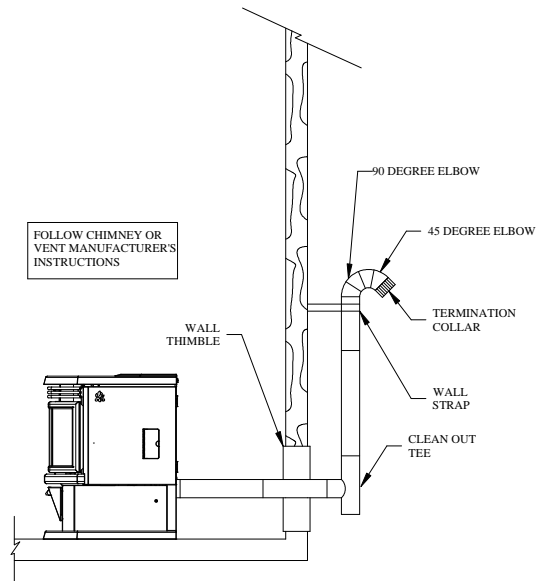

FIGURE 7
A. HORIZONTALLY THROUGH WALL (refer to Figures 7, 8, or 10)